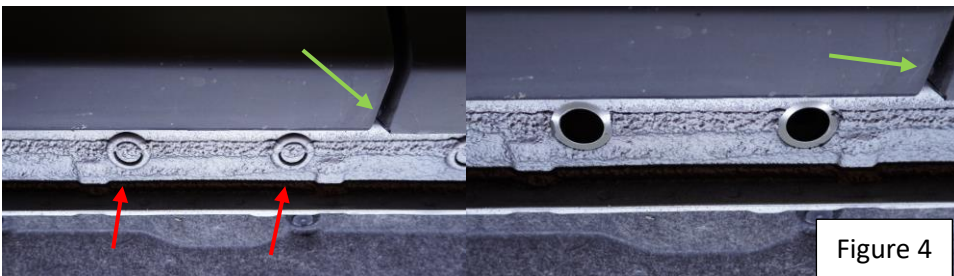

Figure 4
Step 2: Locate the middle bracket position, note green arrows show front door. Remove factory rubber plugs as shown in figure 4. Install provided HTC 230 #13 and install middle bracket Figure 5. Attach C1 Middle bracket using supplied M10 flange bolts and nuts